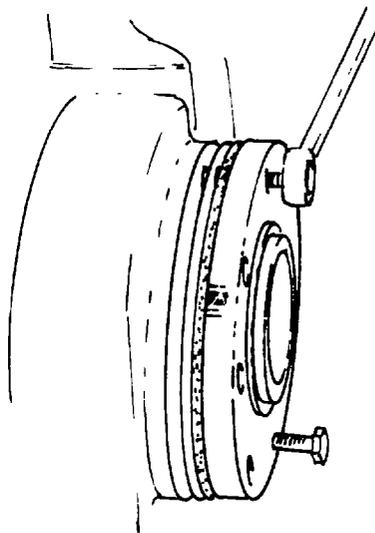

Fig. 286 — Removing Bearing Retainer
- c. Place a block of wood in the carrier housing to support the pinion shaft assembly, then install 1/2 in. — 13 UNC bolts into the threaded holes in the bearing retainer and turn the bolts evenly and alternately until the bearing retainer is free from the carrier housing (see fig. 286).